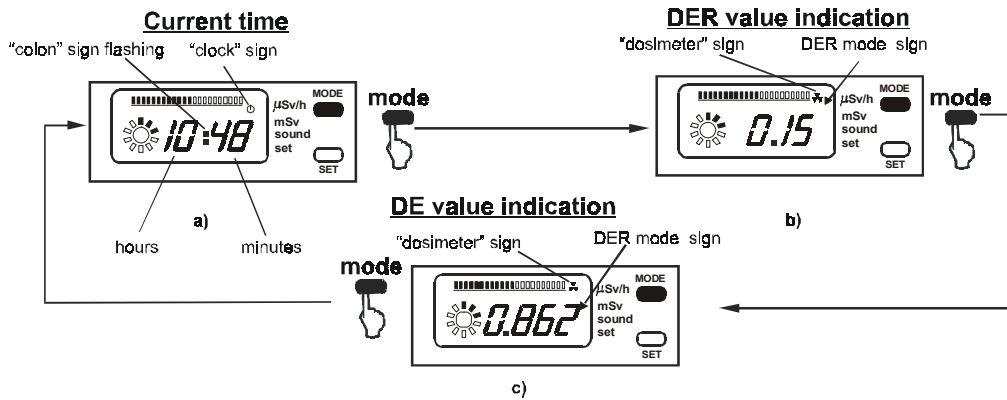
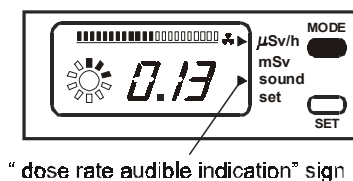
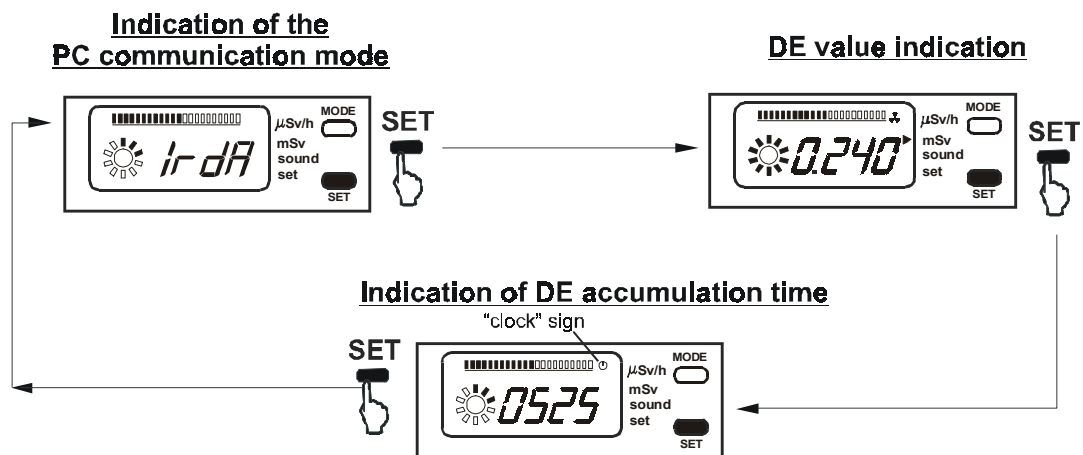

Fig. 2
Fig. 3
Fig.5.
The device displays either the measured DE or DER value, or the current time in hours and minutes. Press and release the “**mode**” button to switch between DER, or DE, or Current Time modes. Each pressing of this button changes the values in the sequential order: Current Time - DER - DE - then again Current Time, etc. (see Fig. 2). The corresponding signs appear on the display to inform the user about the indication of either the current time (in hours and minutes), or the DER (in  $\mu$ Sv/h) and DE (in mSv) values.
Press and hold the “**mode**” button in any of the above mode to set the dose rate audible indication ON; the next value in the order shown in Fig. 2 and the corresponding sign are displayed (Fig. 3). Press the “**mode**” button again to set the sound indication OFF.
Press and release the “**set**” button to switch from the DE indication mode (Fig.2) to the mode of indication of the time (in hours) during which the DE value was accumulated (see Fig 5). The device will automatically return to the DE indication, if the buttons are left unused for approximately 5 seconds.
If the “set” button is pressed while in the mode of indication of the DE accumulation time, the device enters the PC communication mode and the LCD shows the message “IrdA” (Fig.5).
Press and release the “**mode**” button to enter the Current Time mode according to Fig. 2. Press and hold the “**set**” button, the set mode sign will appear and the hours will be flashing on the display. (Fig. 8).
To set DER threshold, press and release the "mode" button and enter the DER mode according to Fig. 2. Press and hold the "set" button to see the preset DER threshold; the two least significant digits (tenths and hundredths of  $\mu\text{Sv/h}$ ) will be flashing, the set mode sign will appear and the filled in linear analogue scale will be indicated (Fig. 10).
**To set the DE threshold**, press and release the "mode" button and enter the DE mode according to Fig. 2. Press and hold the "set" button to see the preset DE threshold; the two digits (hundredths and thousandths of mSv) will be flashing, the set mode sign will appear and the filled in circular analogue scale will be indicated (Fig. 11).
Press and release the “**mode**” button and enter the Current Time mode according to Fig. 2. Press several times the “**set**” button to enter the year indication mode. Press and hold the “**set**” button to see two flashing digits and the set mode sign. Press and release the “**mode**” button to set the value that is equal to the weekly deviation (in seconds) of the watch readings from the accurate time. If the watch is fast this value is set with the minus sign. If the watch is slow this value is set without the minus sign. The minus sign is appeared / disappeared when the set value changes from 99 to 00. The device will automatically exit from this mode, if the buttons are left unused for approximately 1 minute, or the user may press and hold the “**set**” button to exit.